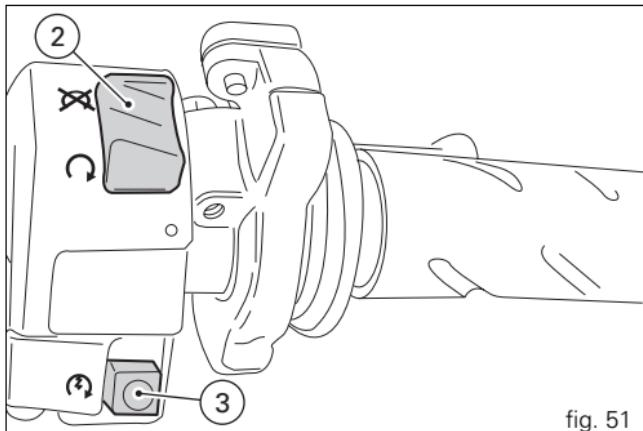

fig. 51
- 3) Make sure that the stop switch (2, fig. 51) is in the **RUN** position, then press the starter button (3, fig. 51).